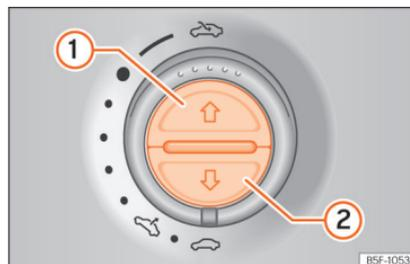

Fig. 149 On the interior roof lining: switches for the sun blind.
Opening completely (automatic function)	Press button » Fig. 149 ① briefly.
- The switch should be in the "closed position" »»  page 20 (1).
- *Panoramic sliding sunroof*: Within five seconds of triggering the anti-trap function, pull the control all the way back »»  page 20 (arrow (5)) until the panoramic sliding sunroof closes fully.
- *Sun blind*: Within five seconds of triggering the anti-trap function, press button »» Fig. 149 (2) until the sun blind closes fully.